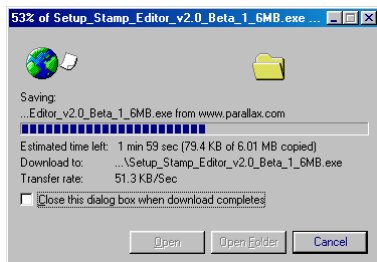

Figure 1-12: Download Progress Window
- ✓ Wait while the BASIC Stamp Editor installation program downloads (shown in Figure 1-12). This may take a while if you are using a modem connection.